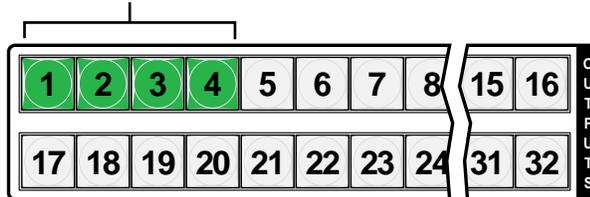

Figure 3-33 — Assign inputs and outputs
- Press and release the desired input and output buttons (figure 3-33).